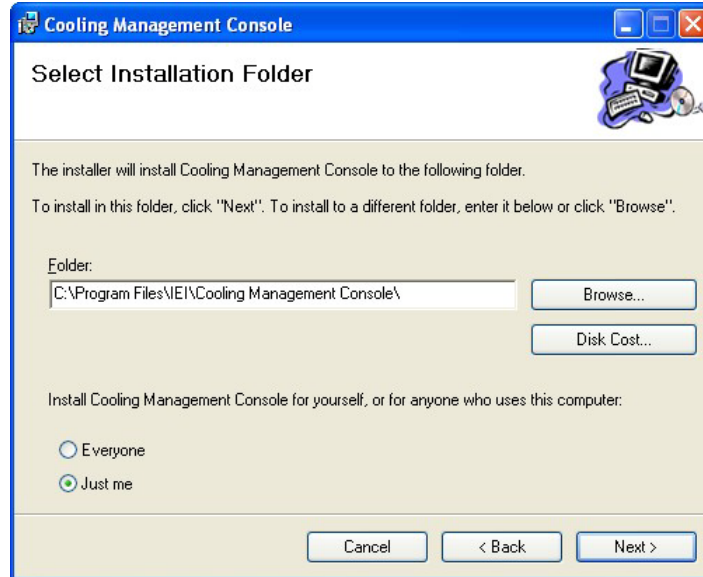

Figure 9-2: Select Installation Folder
Step 4: Select a folder for Cooling Management Console installation in **Figure 9-2**. Click **Next** to continue.